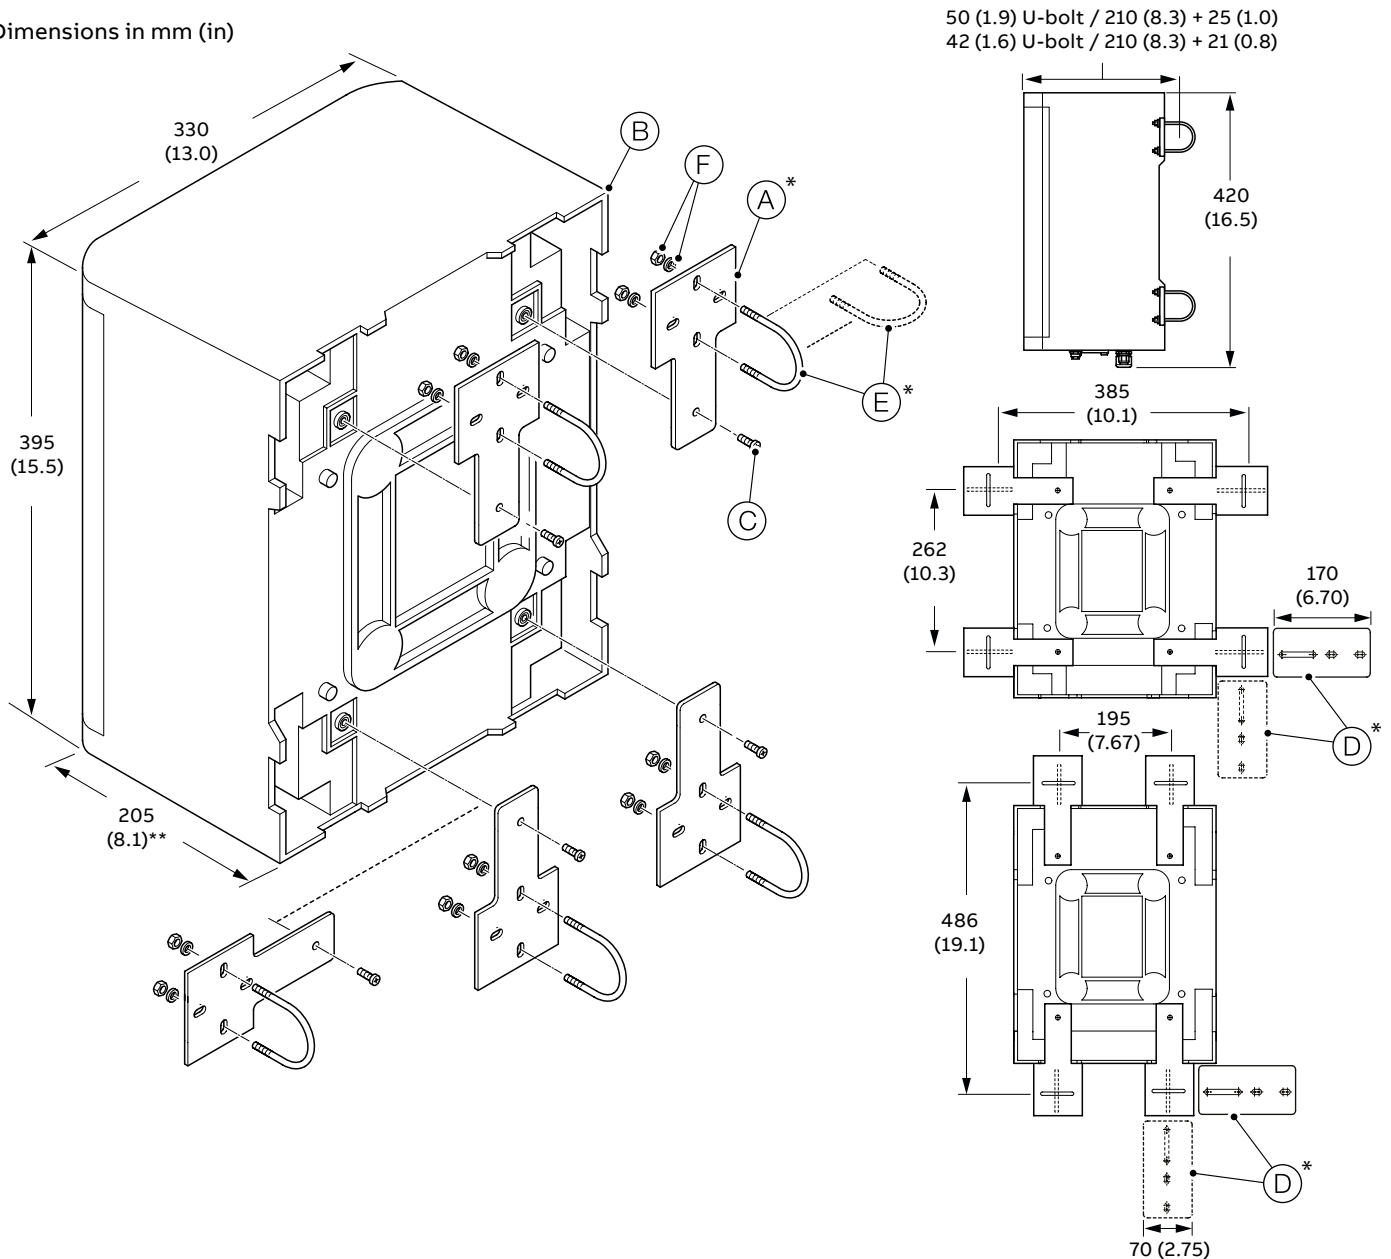

Figure 3 Handrail-mounting
Optional compressor mounting extension plates (D) in Figure 3 [2 supplied with handrail mounting kit]) can be attached to handrail mounting plates if required.
Referring to Figure 3: